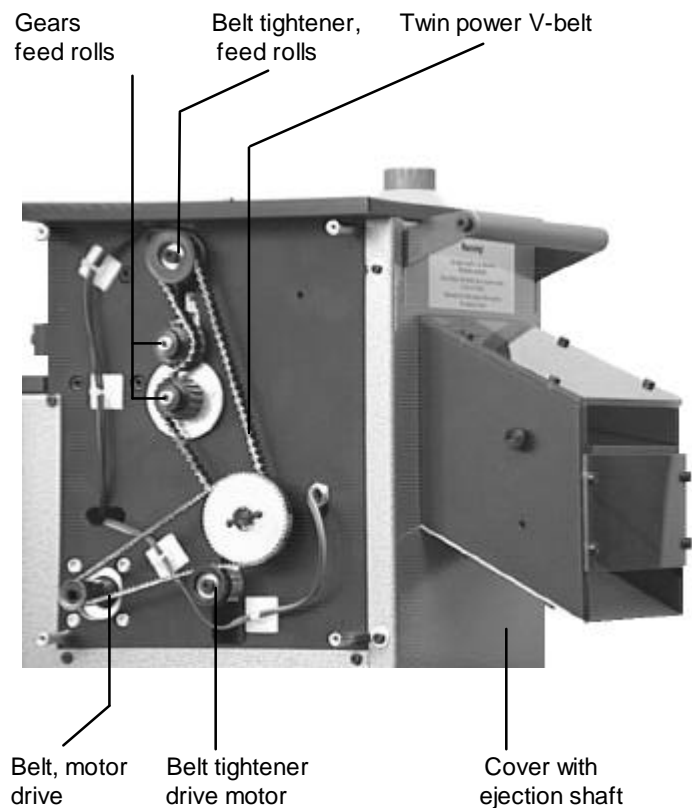
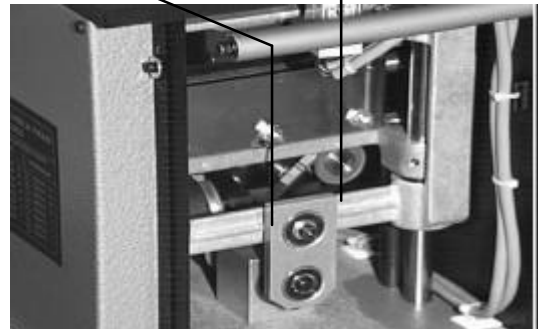

Figure 12. Replacing the feed roll V-belts
Figure 13. Blade drive feed belt
- Remove the cover together with the ejection shaft (Figure 12, Page 37).
- Loosen the “drive motor” belt tightener slightly. After you have pushed the belt tightener down you can remove the smaller V-belt (belt drive motor Fig 12).
- Remove the cover together with the ejector shaft (Figure 12, Page 37). The V-belt for the blade drive is shown in Figure 13.
- Remove the cover together with the ejector shaft (Figure 12, Page 37).